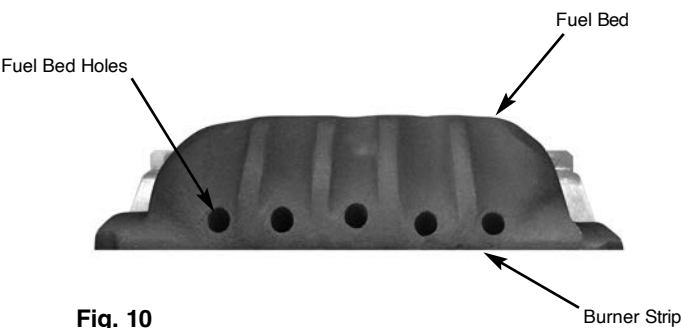

Fig. 10
1. Place the main fuel bed on to the back section of the metal burner tray. It is important that the front edge of the fuel bed is located behind the burner strip, and the holes in the fuel bed line up with the holes in the Burner tray (Fig. 10).